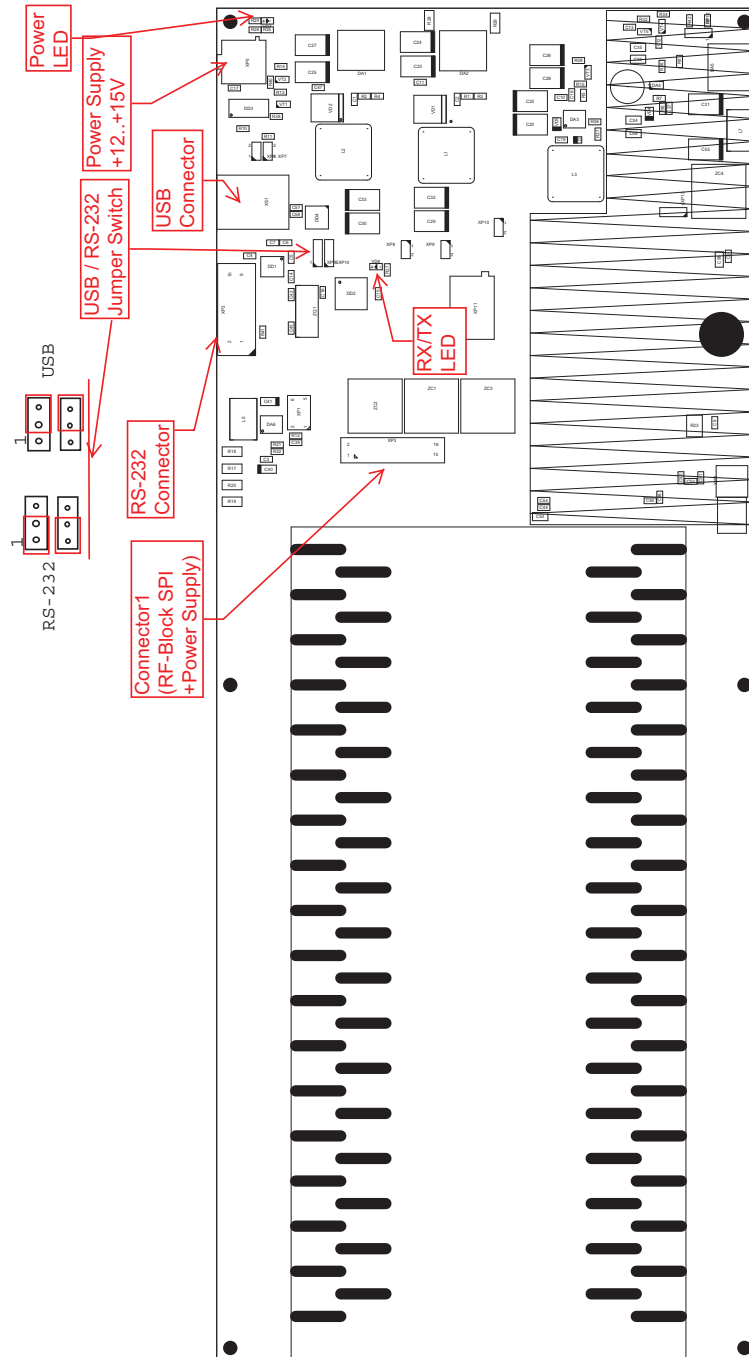

Figure 4: RS2SPI Evaluation Board
AVM-KIT includes AVM modulator and RS2SPI evaluation board (fig. 4). It is designed for quick start and helps to understand SPI protocol command set and algorithms used to control AVM module. All SPI commands which sent to the module are displayed in log window of the application. So you can easily check yourself while debugging of your own control system of the modulator. For remote control of AVM4 module follow the steps below.
3. Connect AVM module to the RS2SPI board (*Connector 1* located on the top side of the board, see fig. 4) via SPI cable (16-pin, 2-mm pitch, IDC flat cable).
4. Connect RS2SPI board to PC via USB or RS-232 cable (see jumper positions for USB/RS-232 use on fig. 4)